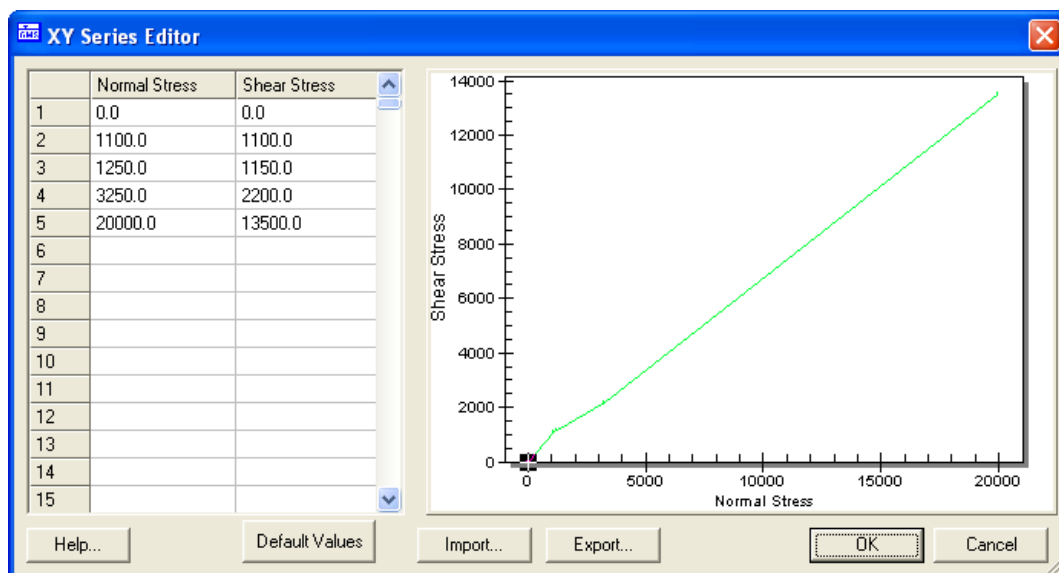

Figure 10. XY Series Editor.
2. In the *XY Series Editor*, enter the values in the table below. The dialog should appear as shown in Figure 10.